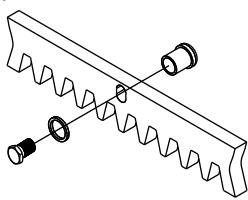

Fig. 8
**6.2.** Fix to each gear rack element the support pawls using the appropriate lock screws, taking care to place them in the upper part of the hole (Fig. 8) ;